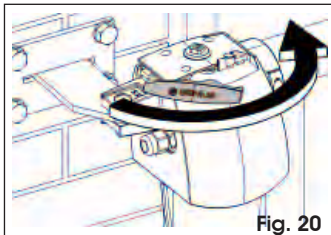

Fig. 20
2. Close the release lever (Fig.20).